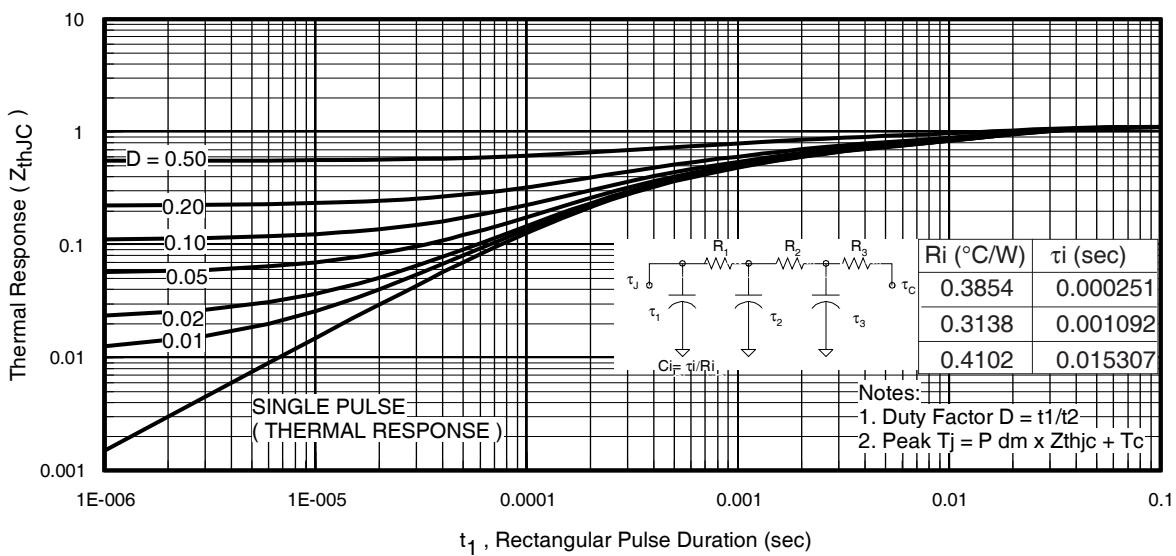
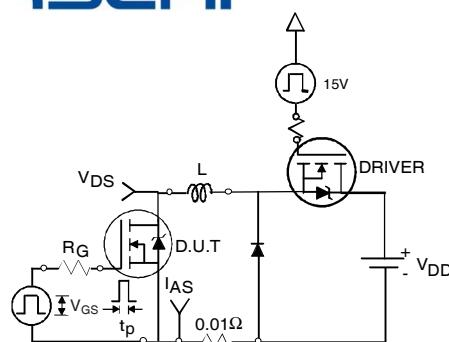

Fig 11. Maximum Effective Transient Thermal Impedance, Junction-to-Case
Fig 12a. Unclamped Inductive Test Circuit
- ① Repetitive rating; pulse width limited by max. junction temperature. (See fig. 11).
- ② Limited by $T_{J\max}$, starting $T_J = 25^\circ\text{C}$, $L = 0.13\text{mH}$ $R_G = 25\Omega$, $I_{AS} = 42\text{A}$, $V_{GS} = 10V$. Part not recommended for use above this value.
- ③ Pulse width $\leq 1.0\text{ms}$; duty cycle $\leq 2\%$.
- ④ $C_{oss\ eff.}$ is a fixed capacitance that gives the same charging time as C_{oss} while V_{DS} is rising from 0 to 80% V_{DSS} .
- ⑤ Limited by $T_{J\max}$, see Fig.12a, 12b, 15, 16 for typical repetitive avalanche performance.
- ⑥ This value determined from sample failure population. 100% tested to this value in production.
- ⑦ When mounted on 1" square PCB (FR-4 or G-10 Material). For recommended footprint and soldering techniques refer to application note #AN-994
- ⑧ R_θ is measured at T_J approximately 90°C
3. Equation below based on circuit and waveforms shown in Figures 12a, 12b.
- $Z_{thJC}(D, t_{av})$ = Transient thermal resistance, see figure 11)